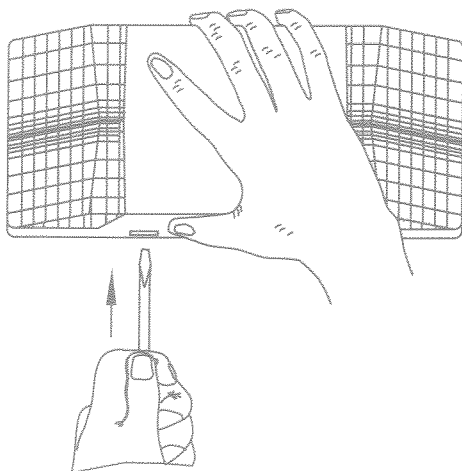

Fig.2
5. Connect red lead to battery positive terminal.(see Fig. 2)